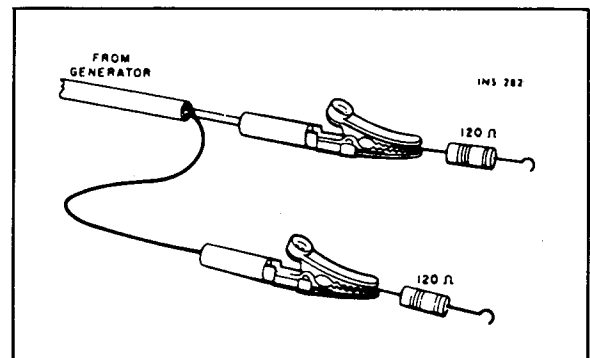
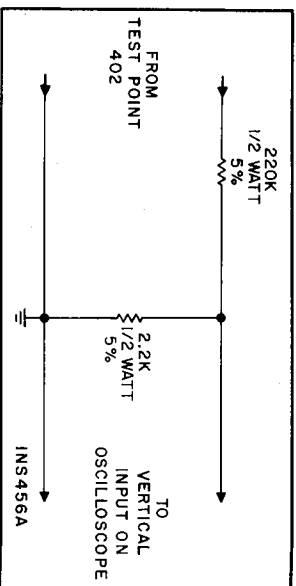

Figure 7. Connections To Provide 300-ohm Generator Output Impedance. Matching Resistors Reduce Generator Voltage By Half At Antenna Terminals.
Figure 8. Voltage Divider Probe.
- (2) Connect an FM generator to the FM ANTenna terminals. Use a 120-ohm composition resistor in series with each lead from the generator (see Figure 7).
- (3) Connect a scope and an AC VTVM to either Left or Right RCDR OUT jack.
- (4) Set FM generator frequency and TUNING dial pointer to 90 MHz. Modulate generator with 400 Hz, ± 75 kHz deviation. Set generator level as low as possible.
- (5) Align (oscillator coil) L504 first, then (mixer coil) L503 and (RF coil) L502 for maximum reading on AC VTVM and tuning meter, and maximum waveform amplitude and symmetry.
- (6) Set generator frequency and TUNING dial pointer to 106 MHz.
- (7) Align (oscillator trimmer) C512 first, then (mixer trimmer) C511 and (RF trimmer) C503 for maximum reading on AC VTVM and tuning meter, and maximum waveform amplitude and symmetry.
- (8) Repeat alignment several times until accurate dial calibration and maximum gain are obtained. Keep the generator output as low as possible during all adjustments.
- (1) Connect an FM generator to the FM ANTenna terminals. Use a 120-ohm composition resistor in series with each lead from the generator (see Figure 7).
- (2) Set generator frequency to same frequency as receiver. Set generator RF output level to full output (approximately 100,000 uV) with audio modulation off.
- (3) Adjust generator frequency for peak tuning meter reading.
- (4) Adjust FM METER ADJ. pot. R328 (on AM/FM IF, MPX board) for tuning meter reading of 4.5.
- (1) Connect RF output of multiplex generator to the FM ANTenna terminals. Use a 120-ohm composition resistor in series with each lead from RF output (see Figure 7). Set MPX generator for external modulation with 19 kHz pilot carrier, ± 7.5 kHz deviation (10% pilot, no audio). Tune receiver to RF frequency of MPX generator.
- (2) Connect DC VTVM to Test Point 403 (pin 4G on AM/FM IF, MPX board).
- (3) Adjust cores of Z401 and Z402 (on AM/FM IF, MPX board) for maximum reading on DC VTVM (2.5 to 4 VDC).
- (4) Connect output of audio generator, set for 1 kHz, to the external modulation input of MPX generator and to external sync input of an oscilloscope. Adjust audio generator level for composite signal ± 75 kHz deviation (10% pilot, 90% audio). Modulate right channel only.
- (5) Connect AC VTVM to Left RC DR OUT jack. Connect scope through voltage divider probe (see Figure 8) to Test Point 402 (pin 4K on AM/FM IF, MPX board).